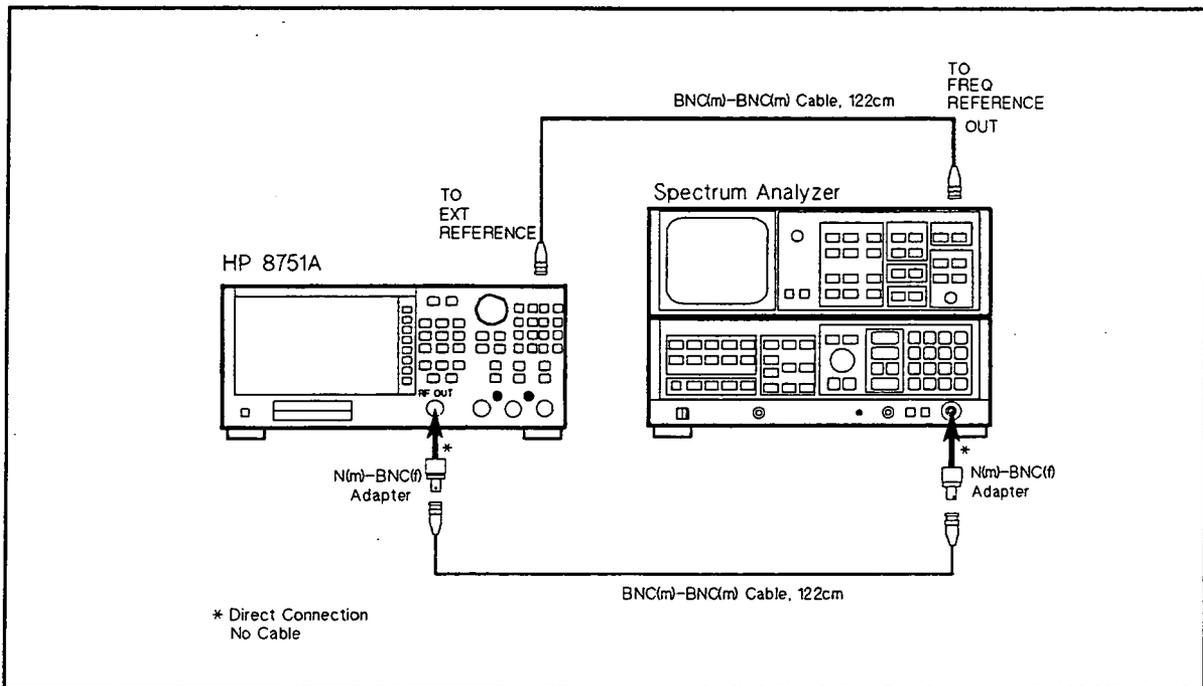

Figure 2-3. Non Harmonics Spurious Test Setup
1. Set up the test configuration as shown in Figure 2-3.